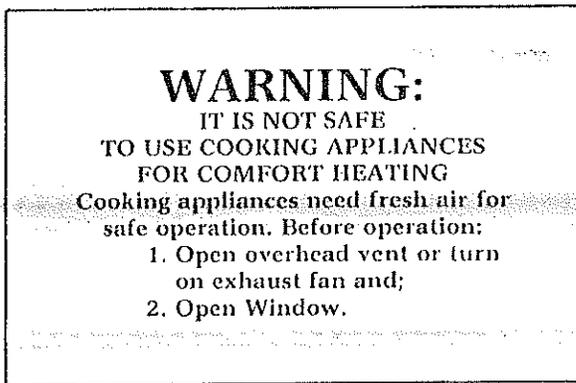

Figure 1
19. This warning label (figure 1) has been located in the cooking area to remind you to provide an adequate supply of fresh air for combustion. Unlike homes, the amount of oxygen supply is limited due to the size of the recreational vehicle and proper ventilation when using the cooking appliances) will avoid dangers of asphyxiation. It is especially important that cooking appliances not be for comfort heating as the danger for asphyxiation is greater when the appliance is used for long periods of time.